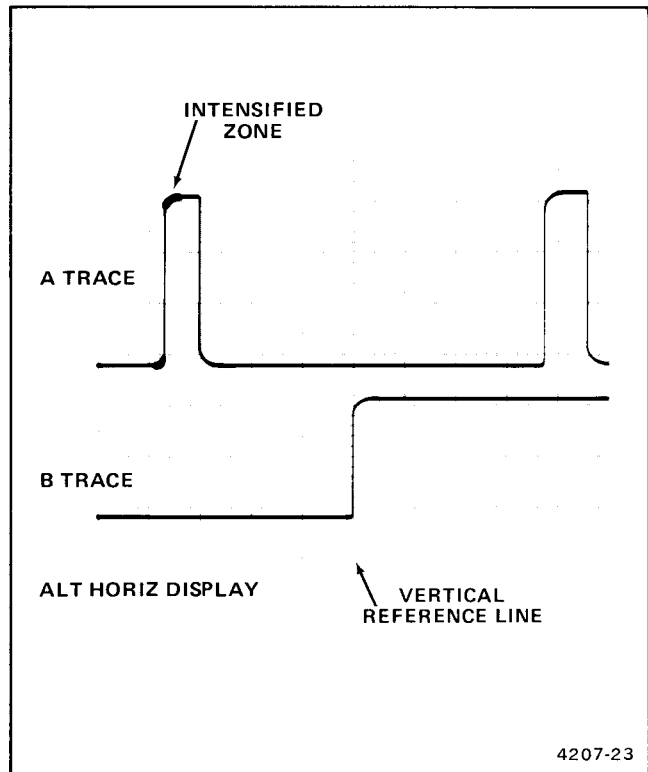

Figure 4-13. Time difference between repetitive pulses.
7. Adjust the B DELAY TIME POSITION control to move the intensified zone to the leading edge of the first pulse (on the A trace); then fine adjust until the rising portion (on the B trace) is centered at any convenient vertical graticule line (see Figure 4-13).